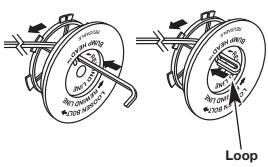

Fig. 32
- Take approximately 9 feet (3 m) of new trimming line. Insert one end of the line through one of the two holes in the inner reel (Fig. 32). Pull the line through the inner reel until only about 4 inches is left out.